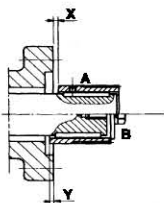

Figure 1
2.2 Put coupling sleeve on to valve shaft and secure it (ref. fig. 1 detail A or B).